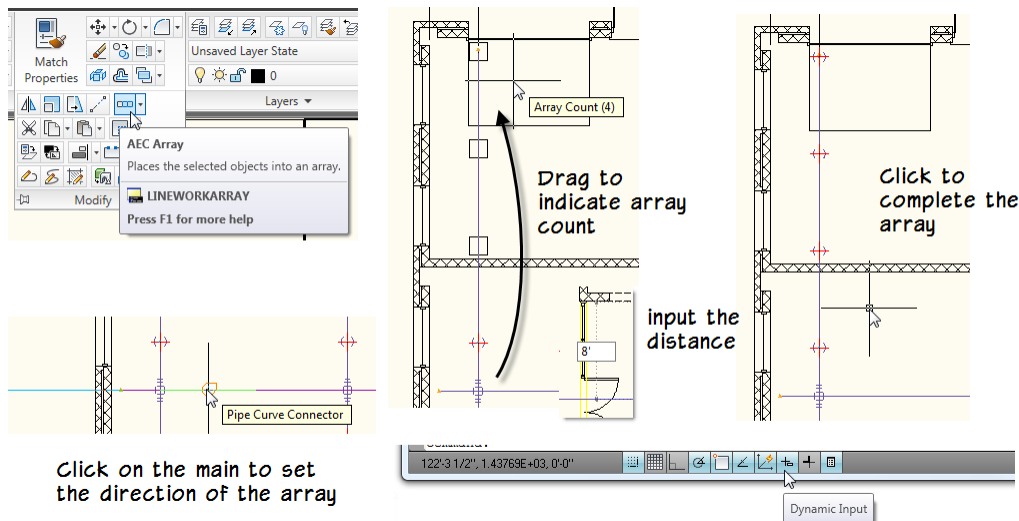

Figure 6.86
28. Click the AEC Array tool (see the top left corner of Figure 6.86) (AEC Array is also available on the right click menu on selecting AEC Modify Tools.) You can also use the AutoCAD Array command to complete this step.
A light blue line will appear on the main before you click to confirm selection (see the bottom left corner of Figure 6.86).
Several squares will appear to indicate where the copies will appear. The default distance between arrayed items is 3'-0". To change this distance in the AEC Array command, you can use Dynamic Input. You can turn this on with the toggle on the Application Status bar at the bottom of the screen (see the bottom of Figure 6.86). Alternatively, you can type P at the command line to Pick array distance.
31. Type **8'-0"** in the dynamic dimension on screen (it will appear near the midpoint of the main) and then press enter (see the middle of Figure 6.86).
32. The squares will adjust and a tooltip will confirm the new spacing. To accept the array, click the mouse (see the right side of Figure 6.86).